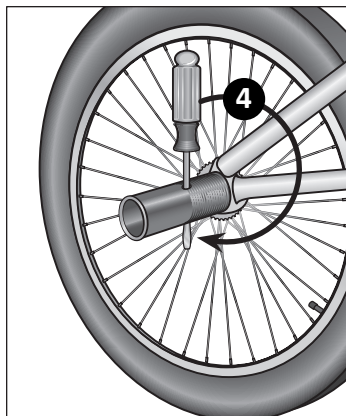

Figure 3.33
- 4 Insert a screwdriver or similar tool through the peg holes and tighten by turning the peg with the tool. **Figure 3.33**